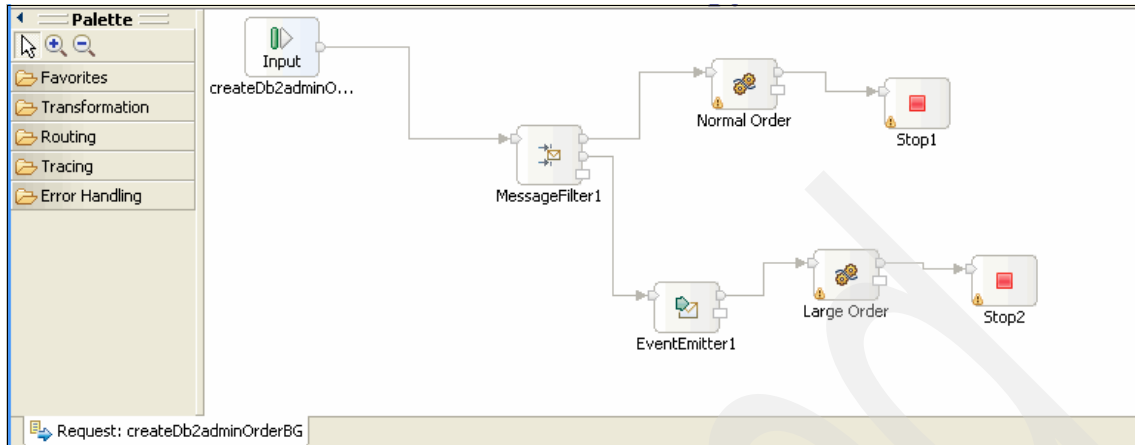

Figure 6-92 Adding Stop mediation primitives
1. To complete the mediation flow, add two **Stop** mediation primitives under the Error Handling section and connect the primitives to the mediation flow. (Figure 6-92 on page 325).